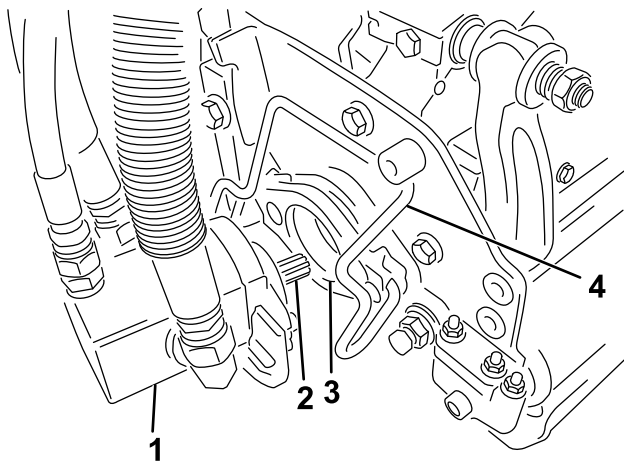

Figure 46
5. Coat the spline shaft of the cutting unit motor with clean grease (Figure 46).
6. Insert the motor into the left side of the cutting unit (as viewed from the operator's position) and pull the motor retaining bar on the cutting unit toward the motor until you hear a click from both sides of the motor (Figure 46).